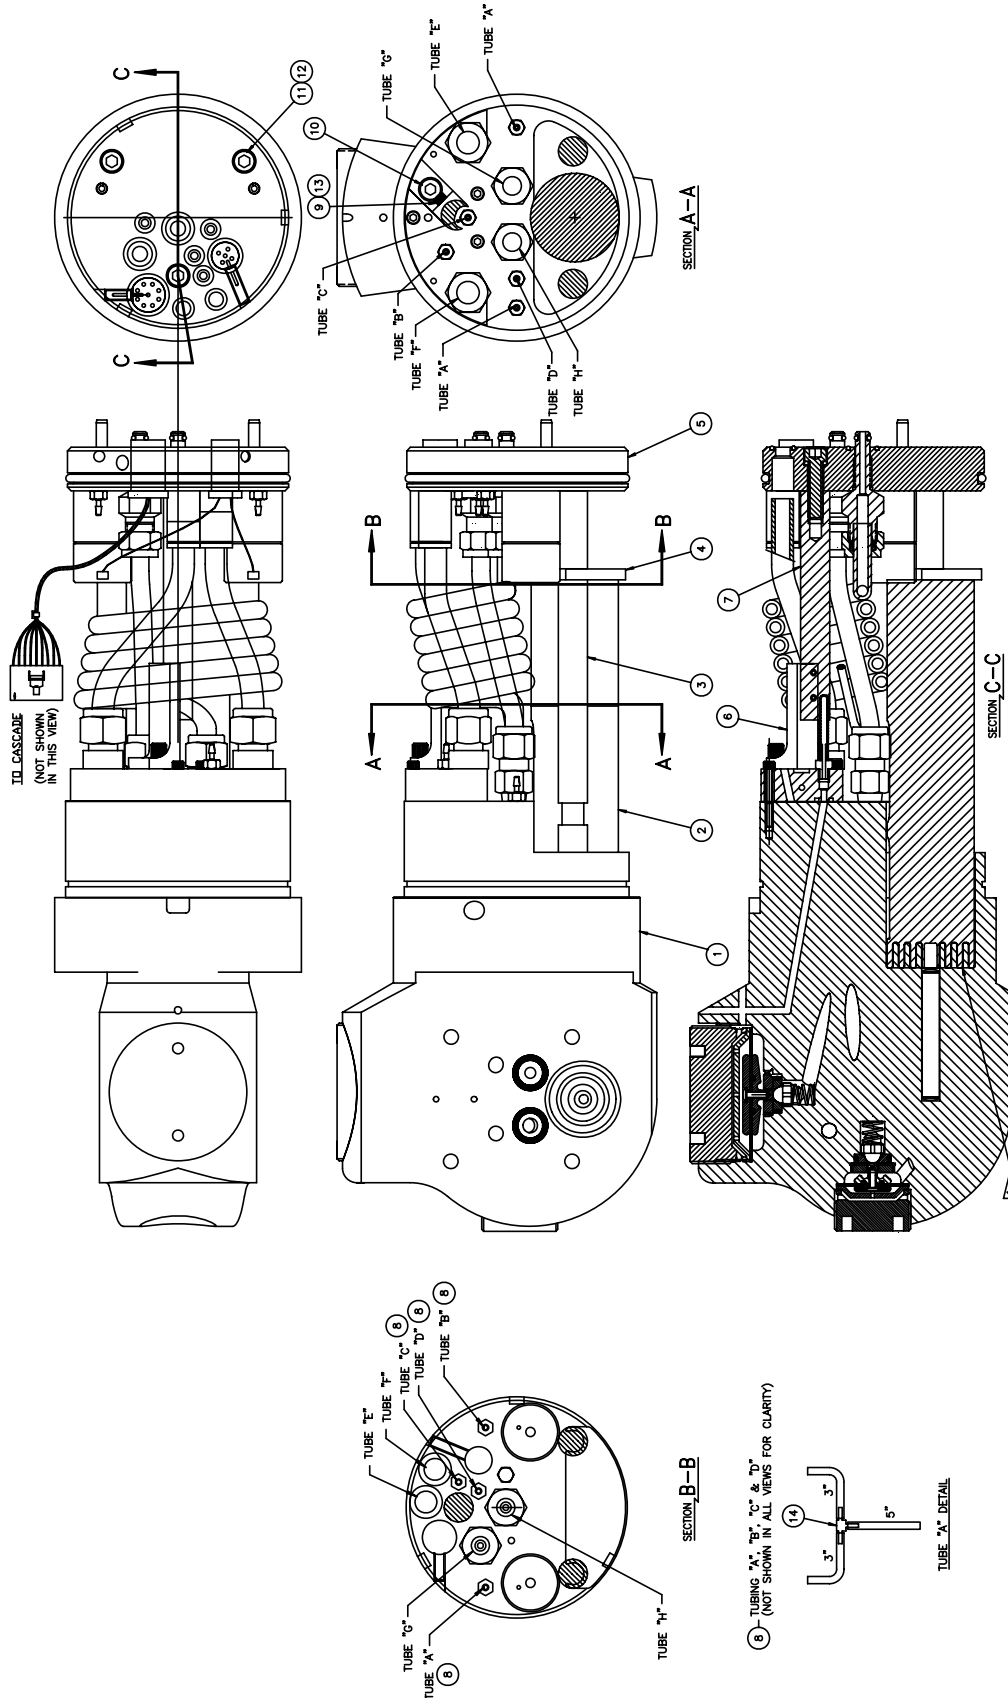

Figure 25: 76489 Applicator Housing Assembly (Dual 90°)
76486 APPLICATOR HOUSING ASSEMBLY - PARTS LIST (Figure 25)
**** PARTS LIST BULLET DEFINITION TABLE (Figure 25)**
TUBE FUNCTIONS (Figure 25)